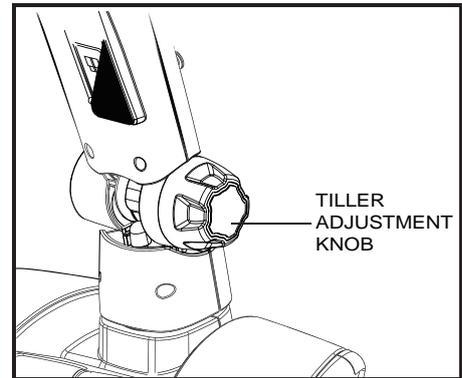

Figure 12. Tiller Angle Adjustment Knob
1. While supporting the tiller, turn the tiller adjustment knob counterclockwise to loosen the tiller. See figure 12.